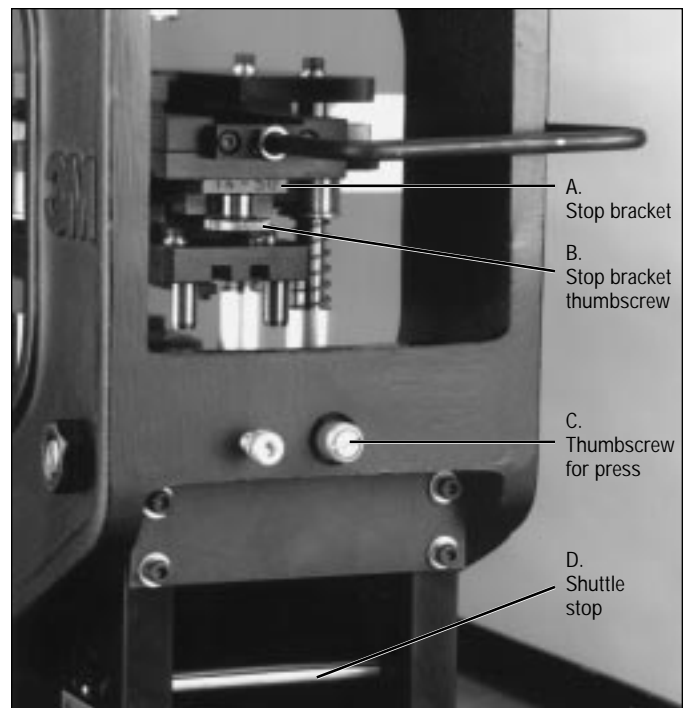
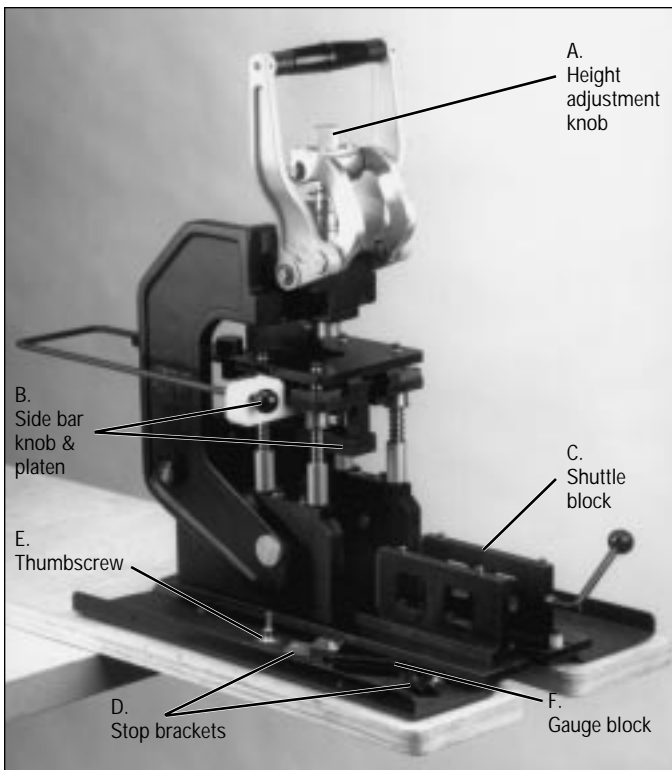

Figure 2. Back of press
Figure 4. 10960-2000 Hand Press
2. Select the 10960-2000 Hand Press and place it in front of the operator so the handle is toward the operator. It is recommended for assembling connectors that the press be positioned in a manner so cable may hang freely below the press when moving the shuttle block (C of Fig. 4).
3. Locate the thumbscrew (C of Fig. 2) at the back of the press. Loosen the thumbscrew and gently lower the armature of the press away from the operator (Fig. 3). This allows easy access to the back of the press to install the cutting unit.
4. Slide the platen assembly forward using the side bar which has a round black knob (B of Fig. 4) on the operator's left side.
6. Locate cutting unit stop brackets and thumbscrew (D & E of Fig. 4). Depending on size of assembly choose stop bracket accordingly. (Black for 14-50 position and Silver for 68-100 position.) Stop brackets are installed using the thumbscrew (A & B of Fig. 2).
8. After installing the stop bracket, position the armature of the press back in an upright position. Tighten the thumbscrew (C of Fig. 2) to hold it in place.
9. Located at the back of the press is a silver, dowel shaped shuttle stop (D of Fig. 2). Set shuttle stop for appropriate connector pin count.
10. Locate the shuttle block (C of Fig. 4) and install fixture unit (Fig. 14) on the guide pins. Push the release buttons on the front of the fixture unit to open the grooved plates.
11. Locate the gauge block (F of Fig. 4). Height adjustment can be accomplished by placing the gauge block, narrow side down, in the fixture unit between the two grooved plates. Close plates manually by squeezing them together.
14. Adjust the silver knob at the top of the press (A of Fig. 4) by hand until the platen lightly contacts the gauge block. Lift press handle up and adjust the silver knob approximately another one-half turn tighter. Pull handle down again. It should lightly lock in place when fully depressed. The platen should apply enough pressure on the gauge block and shuttle to prevent them from moving when trying to slide them out.
1. Place the fixture unit onto either the fixture block (Fig. 12) or the shuttle block on the press (C of Fig. 4) with the slot on the fixture unit toward the operator and the cable clamp stop adjustment knob at the rear of the unit, away from the operator.